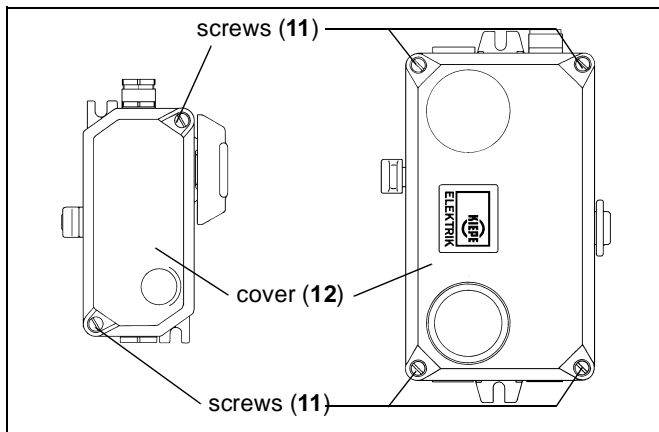

Fig. 7-1: Mounting/dismounting cover
1. Open the pull rope switch cover (12) by loosening the two resp. four screws (11) (s. fig. 7-1).